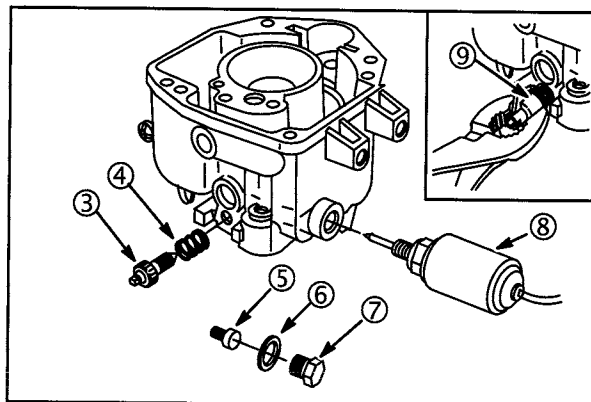

Fig. 80
If idle mixture screw is equipped with adjustment limiter cap (9), use a pliers to remove it before removing idle mixture screw (inset), Fig. 80.
4. Remove idle mixture screw (3) and spring (4), Fig. 80.
5. Remove anti-afterfire solenoid (8), if equipped, or plug (7) and washer (6).
6. Remove fixed main jet (5) using Screwdriver, #19062.